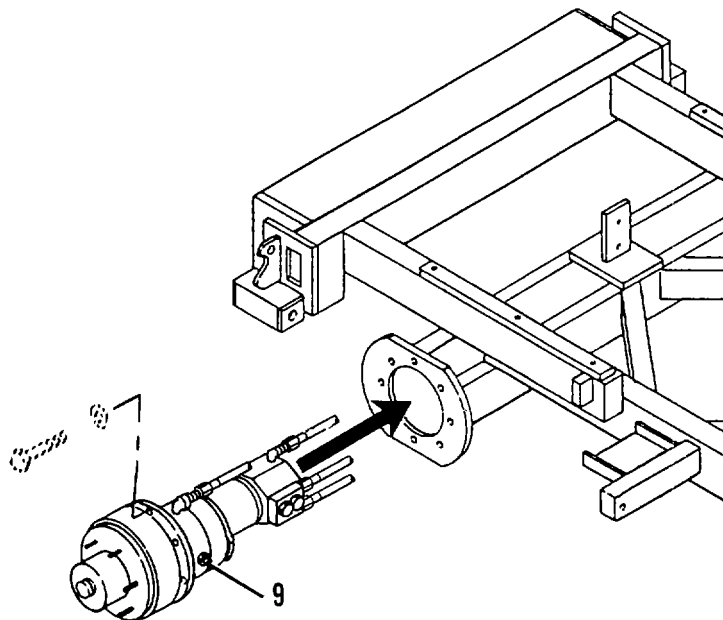

Figure 3-29.3. Hydraulic Motor, Brake and Drive Hub, Replacement.
- (10) Loosen the bleeder valve (9, Figure 3-29.3).
- (11) Start the SPEMS and flick the drive mode switch until fluid is seen at the bleeder valve. Tighten the bleeder valve.
- (12) Start the SPEMS and check for proper operation and leakage. Tighten fittings if necessary.